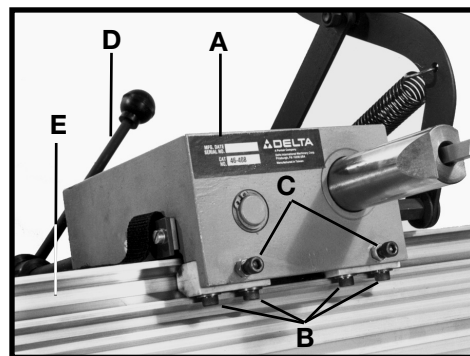

Fig. 44
2. Grasp the carriage assembly (A) Fig. 44. Check for any unwanted play (movement) between the carriage assembly and rail. If no play is present between the carriage assembly and rail, proceed with **STEP 4**.
3. If loose movement is detected in the carriage assembly (A) Fig. 44, determine which side of the carriage assembly needs adjustment. Loosen two corresponding lock screws (B) Fig. 44, located at the rear of carriage assembly (A), and turn corresponding adjustment screw (C) clockwise. **IMPORTANT:** Turn the adjustment screw (C) only slightly. Check and readjust if necessary. Remove all play between the carriage assembly (A) and rail. Tighten the two corresponding lock screws (B).
4. Rotate handwheel (D) Fig. 44, and move carriage assembly (A) back and forth the entire length of the duplicator guide rail (E). Check for smooth operation of the carriage assembly (A). **NOTE:** Proper movement of the carriage assembly is the decision of the individual operator. However, a small amount of drag is normal.
5. If an adjustment is necessary, refer to STEP 3. Tighten four lock screws (B) after adjustment is made.